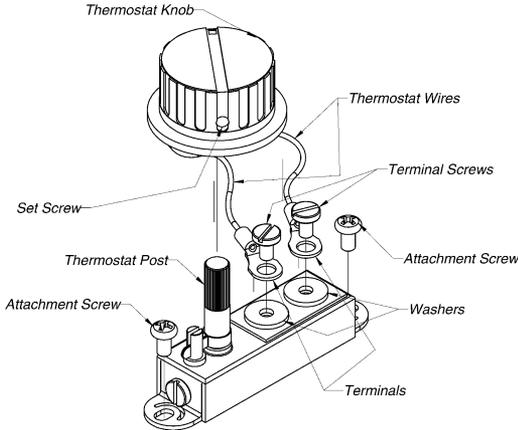

Fig. 2
3. Attach both “thermostat wires” on the “rear terminal”. **Fig. 2, Pg. 9**